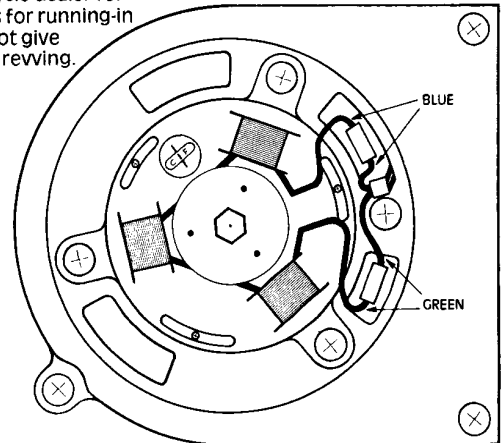

FIG 1
10. Fit the stator plate (b) to the contact breaker mounting on the outside of the alternator using three of the contact breaker mounting screws with fitted flat washers. The large hole should line up over the timing slot in the alternator and the screws half way along their adjustment slots (see figure 1).